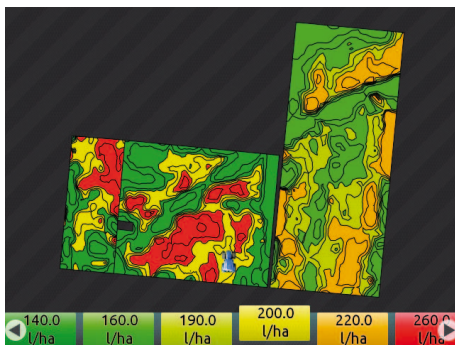

Fig. 247
- Proceed with the job. According to the position detected by the GPS receiver, Bravo 400S will use the appropriate spray rate for the area that is being sprayed (Fig. 247).